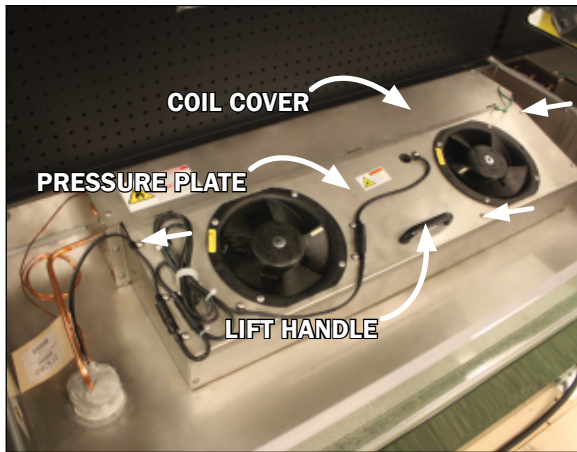

Fig. 20 Pressure plate, coil cover, screws and lift handle
3. To access the underside of the fans first remove the screws on the top ends and front sill of the pressure plate cover (Fig. 20). Lift the pressure plate by use of the provided lift handles (Fig. 20). There are hinges shared between the pressure plate and coil covers. **Note: It is recommended that more than one person lift the pressure plate.** The topside of pressure plate will rest against the topside of the coil cover, exposing the underside of the pressure plate and fans (Fig. 20).
2. Remove the top two screws at both ends of the coil cover (Fig. 20), as well as the screws from the top ends and front sill of the pressure plate cover (Fig. 20). **Be sure to save the removed screws for reassembly.**